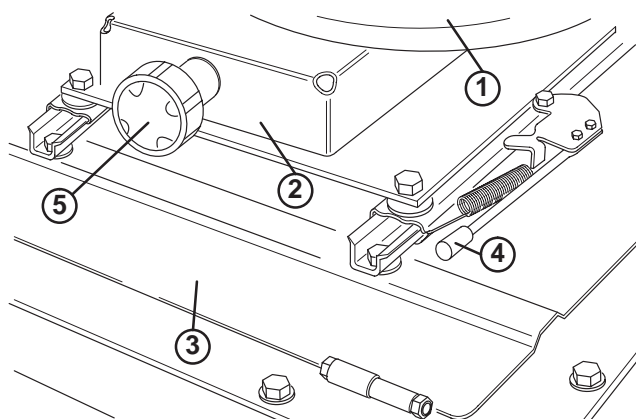

**Figure 8**
4. Secure seat suspension to seat mounting plate with (4) flange locknuts (Fig. 8).
5. Mount seat to seat suspension with (4) capscrews, lockwashers and flatwashers (Fig. 8).